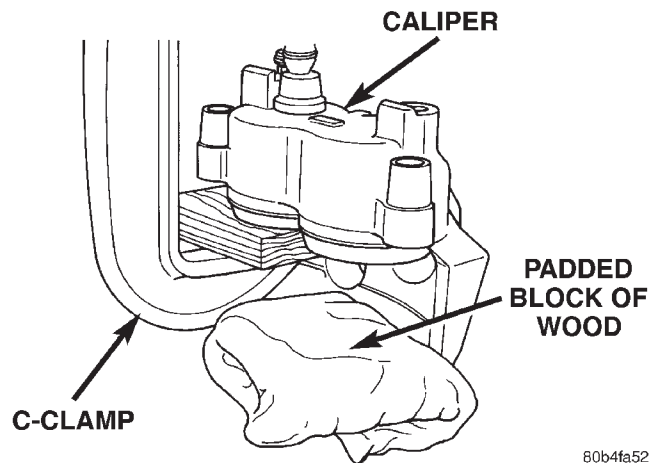

Fig. 64 Protect Caliper Piston
(3) Take another piece of wood and pad it with one-inch thickness of shop towels. Place this piece in the outboard shoe side of the caliper in front of the other piston. This will cushion and protect caliper piston during removal (Fig. 64).